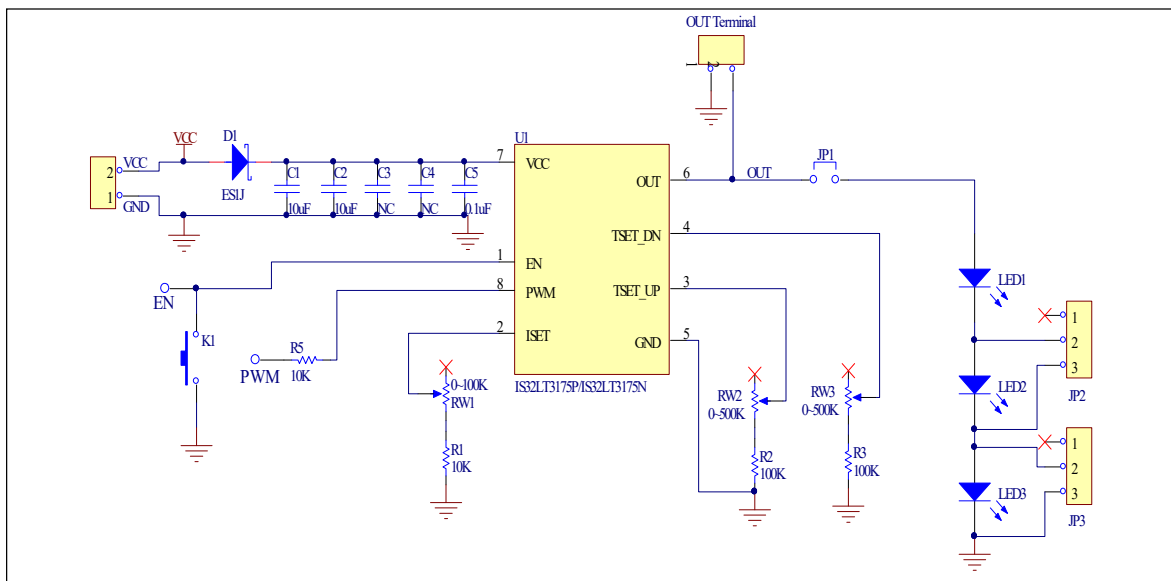

Figure 2: IS32LT3175N/P Application Schematic
- with an ohm meter across ISET and GND pins. Use this measured resistor value to replace the variable resistor RW1 and R1 (see schematic Figure 2).
- 3) The fade in time is adjusted by the variable resistor (RW2). Turn RW2 counter clockwise to decrease fade in time, and clockwise to increase fade in time. Once the desired fade in time is set, measure the resistor value across TSET\_UP and GND. Use this measured resistor value to replace the variable resistor RW2 and R2 (see schematic Figure 2).
- 4) The fade out time is adjusted by the variable resistor (RW3). Turn RW3 counter clockwise to decrease fade out time, and clockwise to increase fade out time. Once the desired fade out time is set, measure the resistor value across TSET\_DN and GND. Use this measured resistor value to replace the variable resistor RW3 and R3 (see schematic Figure 2).
Bill of materials, refer to Figure 2 above.